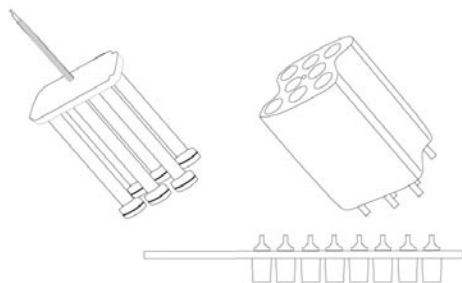

Figure F.2.2:
4. Place all components (see Figure F.2.2) into the autoclave and autoclave at 121°C for 20 minutes.